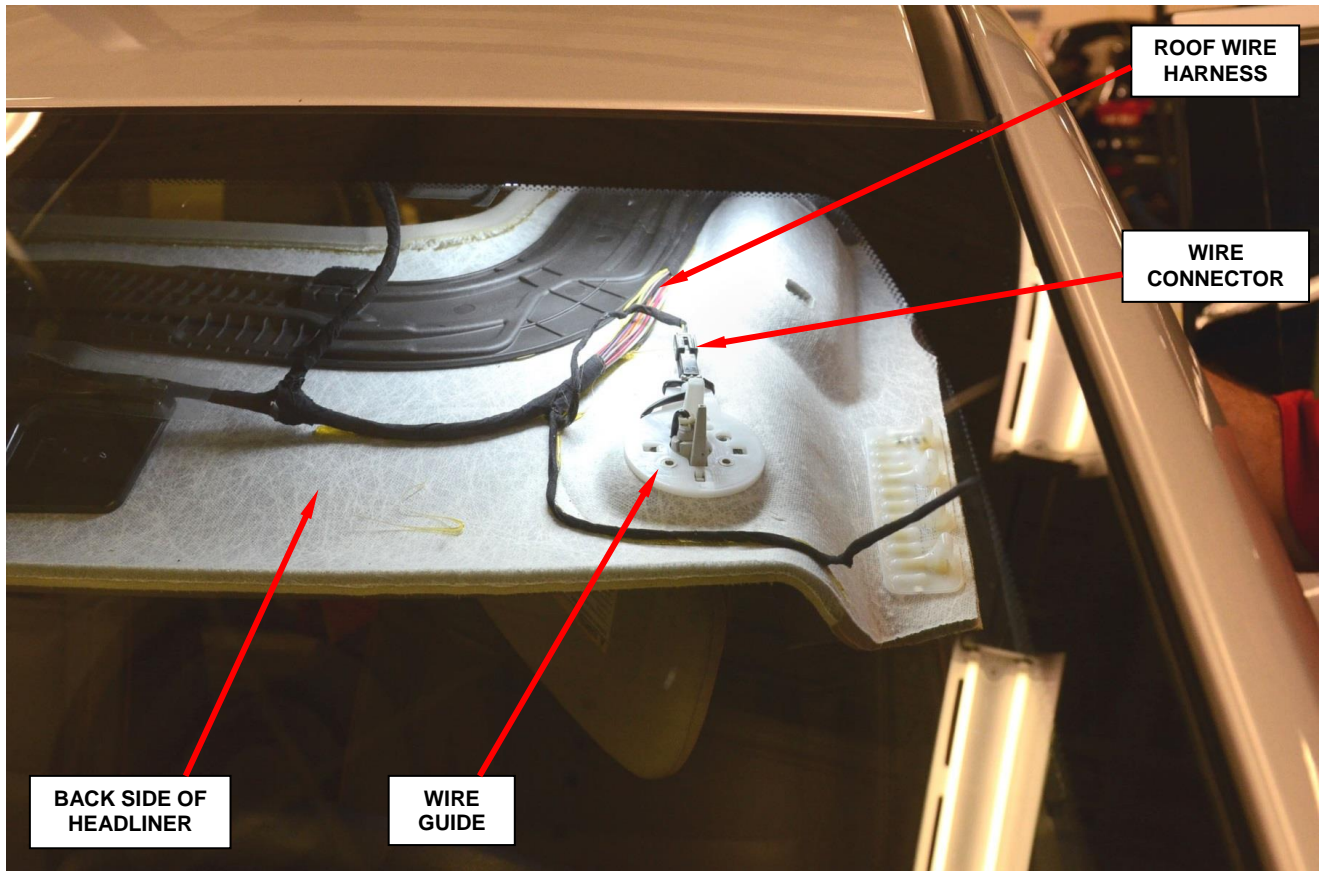

Figure 29 – Wire Guide Connector (viewed through windshield)
57. Connect the roof wire harness connector to the sun visor electrical connector (Figure 29).